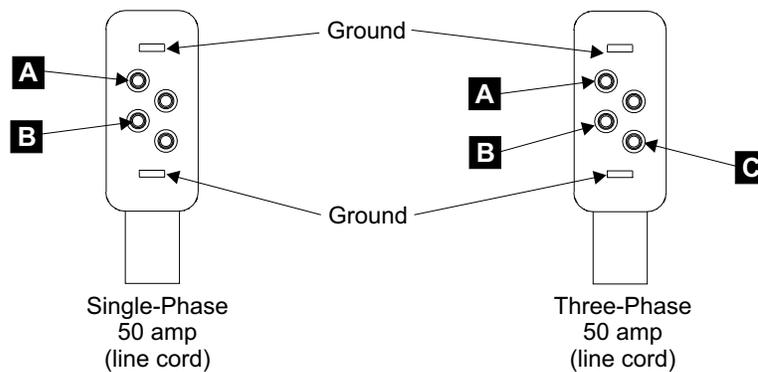

Figure 226. Female Connector on the Mainline Power Cable (S008049I)
- For single-phase AC see Table 5 and Figure 226 on page 219.
- For three-phase AC see Table 6 on page 219 and Figure 226 on page 219.